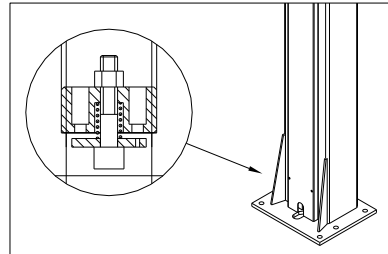

Fig.16
3. In case of a sudden, great leakage in the hydraulic circuit (a broken pipe), the blocking valves, at the bottom of each cylinder, will trip (fig.16).